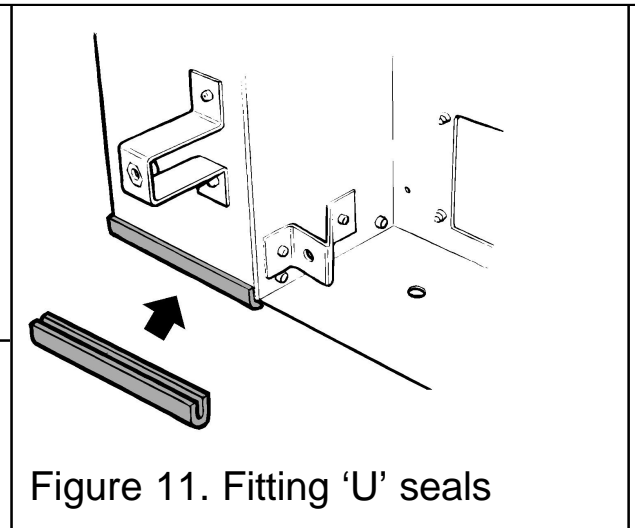

Figure 11. Fitting 'U' seals
4. Fit the two small 'U' section seals to the bottom edges of the convection box side flanges (See figure 11).